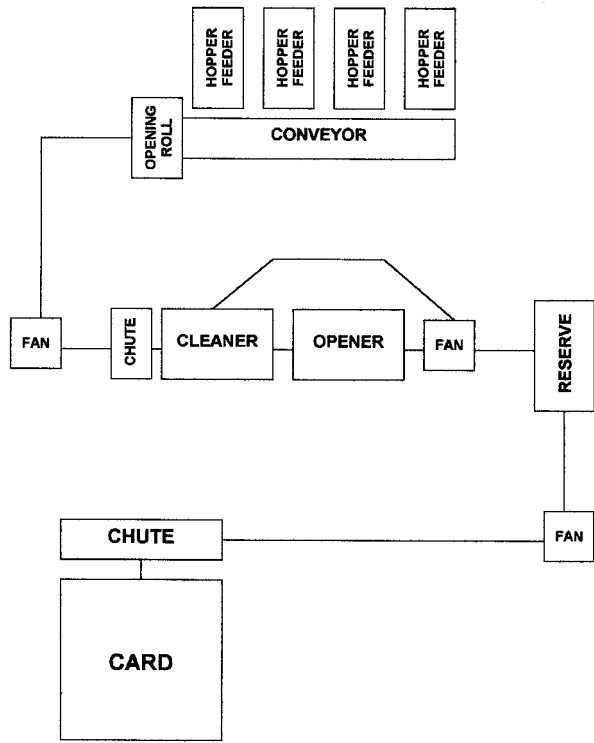

Figure 6. Hoppers/Opening Roll/Cleaner/Opener/Card
*Hoppers/Opening Roll/Cleaner/Opener/Card.* Raw cotton can be fed to blending machinery, through a cleaning module, then through a fine opening module, and on to the card (Figure 6). This would allow all equipment required for processing synthetics to remain on the line. To avoid increasing neps, a diversion valve can feed the reserve closest to the card with cleaned cotton while bypassing the fine opener.